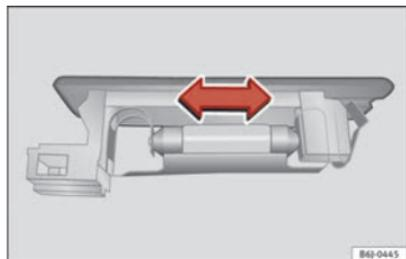

Fig. 201 Luggage compartment light
- Press the bulb sideways and remove it from its housing ⇒ Fig. 201.